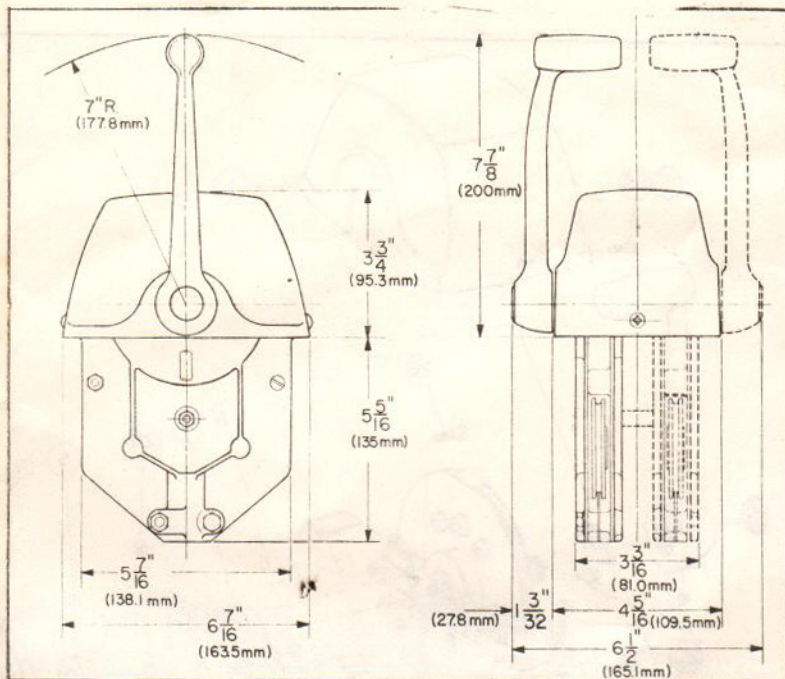

FIGURE 1
- Allow clearance for full movement of the control head hand lever. (See figure 1 for dimensions.)
- Remove control cover (2) with screws (25). Note: Cover mounting brackets (27) are removable-caution should be taken to avoid misplacement.
- Brackets (16) and screws (15) are packed in hardware kit.